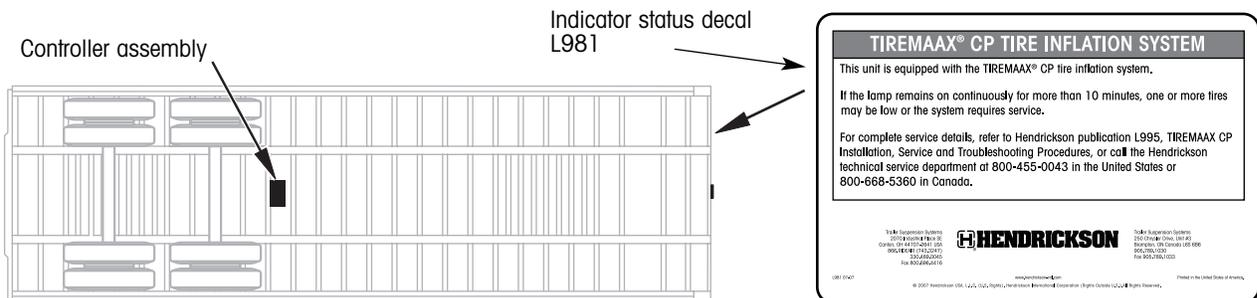

Figure 33. Recommended controller assembly mounting location and label placement
1. Install indicator status decal L981 at the front of the trailer near the indicator (figure 33).